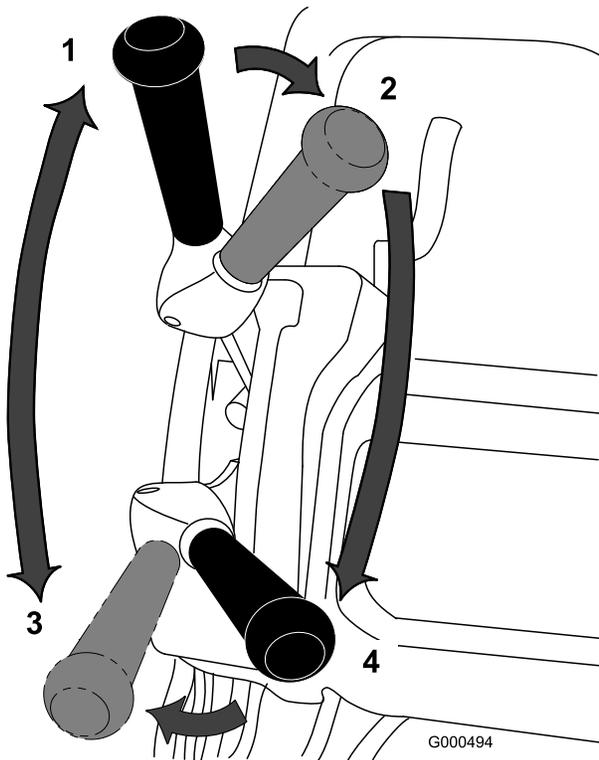

Figure 23
1. Start the engine, set the throttle at reduced speed, push down on handle to raise cutting unit, move traction lever to Engaged position and transport mower onto collar of green (Figure 23).
2. Move traction lever to Disengaged position and Engage reel drive lever (Figure 23).
3. Move traction lever to Engaged position, increase throttle speed until the mower is traveling at the desired ground speed, drive the mower out onto the green area, lower the front of the mower down and commence operation (Figure 23).